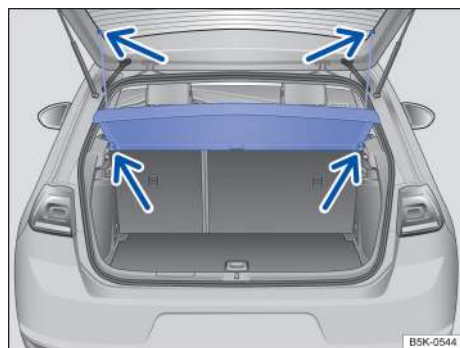

Fig. 141 In the luggage compartment: Installing and removing the luggage compartment cover.
- Unhook the supporting cords from each side of the trunk lid → fig. 141 (top arrows).
- Push the luggage compartment cover upward from below → fig. 141 (bottom arrows) until it releases from the side brackets.
- Press the luggage compartment cover into the side brackets from above → fig. 141 (bottom arrows).
- Hook the supporting cords onto the trunk lid → fig. 141 (top arrows).